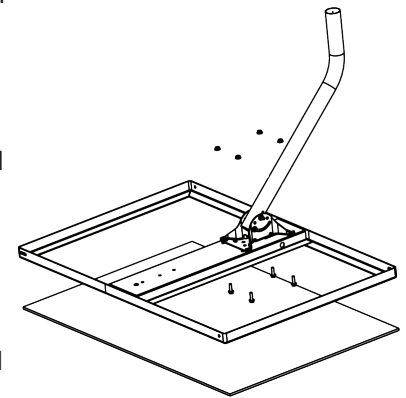

Figure 1
4. Assemble the mast / foot assembly supplied with the antenna, to the center plate of the non-penetrating roof mount using the four screws and nuts provided. The mast should be extended over the edge of the mount. Torque the hardware to 120 in-lbs minimum. See Figure 1.